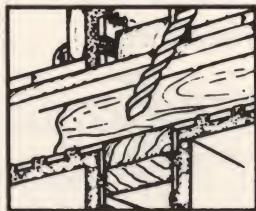

FIG. 59
**ENTRY THROUGH BASEBOARD.** It may be necessary to run cable from an accessible opening on second floor to first floor. Where the second floor partition is directly over first floor partition, it is usually simple to bring cable through from floor above by removing baseboard and boring hole through floor and the 2 x 4 plate (Fig. 59). Later, baseboard can be replaced.